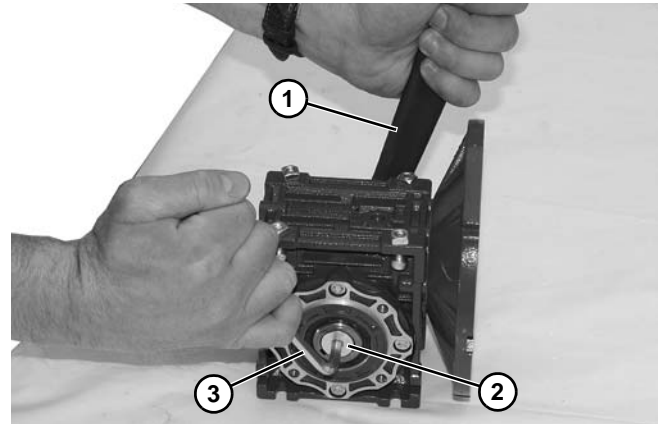

Figure 23
8. Hold the driveshaft with a wrench (**Figure 23, item 1**) as shown to keep shaft from turning, while removing screw (**Figure 23, item 2**) with hex wrench (**Figure 23, item 3**).
Output shaft (**Figure 23, item 1**) is held in Gear Reducer with a tapered press fit. Removal may require use of an arbor press.
14. Hold the driveshaft with a wrench (**Figure 23, item 1**) as shown to keep shaft from turning, while installing screw (**Figure 23, item 2**) with hex wrench (**Figure 23, item 3**) Tighten screw to 350 in-lb (39.5 Nm).